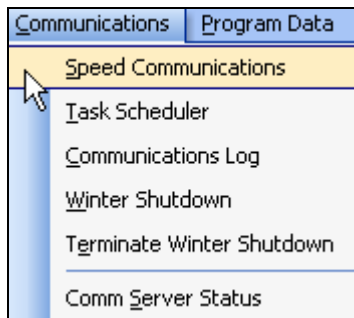

Figure 20.3.1
1. From the toolbar the top of the screen select **Communications** then scroll down to **Speed Communications** and click on it (Figure 20.3.1).